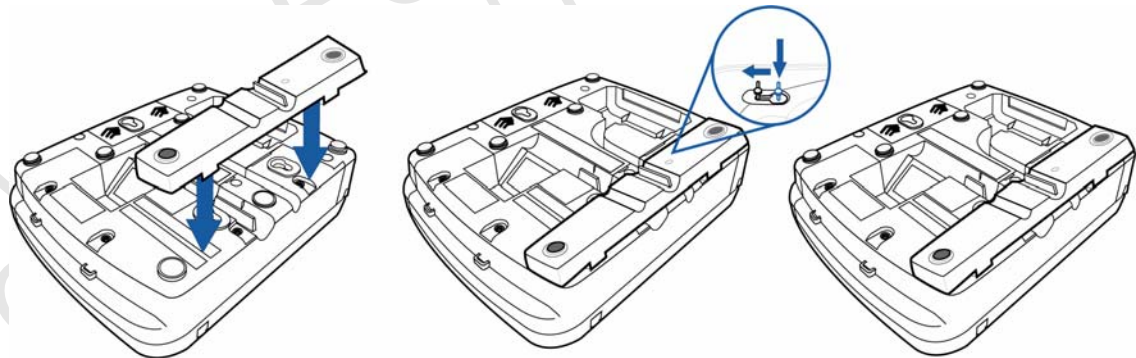

Figure 4 Installing the Countertop Wedge of M^x800 Series Series
- 1 Align the pins in the countertop wedge with the two key holes on the bottom of the M^x800 Series series terminal (Figure 4).